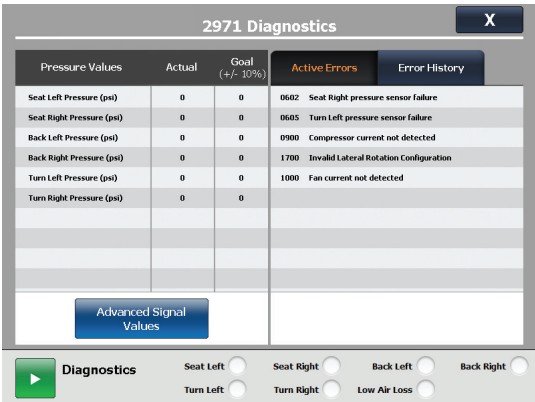

Figure 41: Diagnostic Main Screen Sample
5. If you have entered into the diagnostic menu and need to exit, tap X (Figure 41).